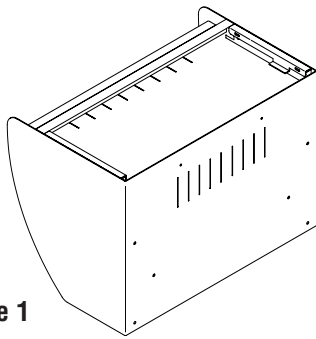

Figure 1
1. Position fully assembled shelf onto its top (or back) (Figure 1).